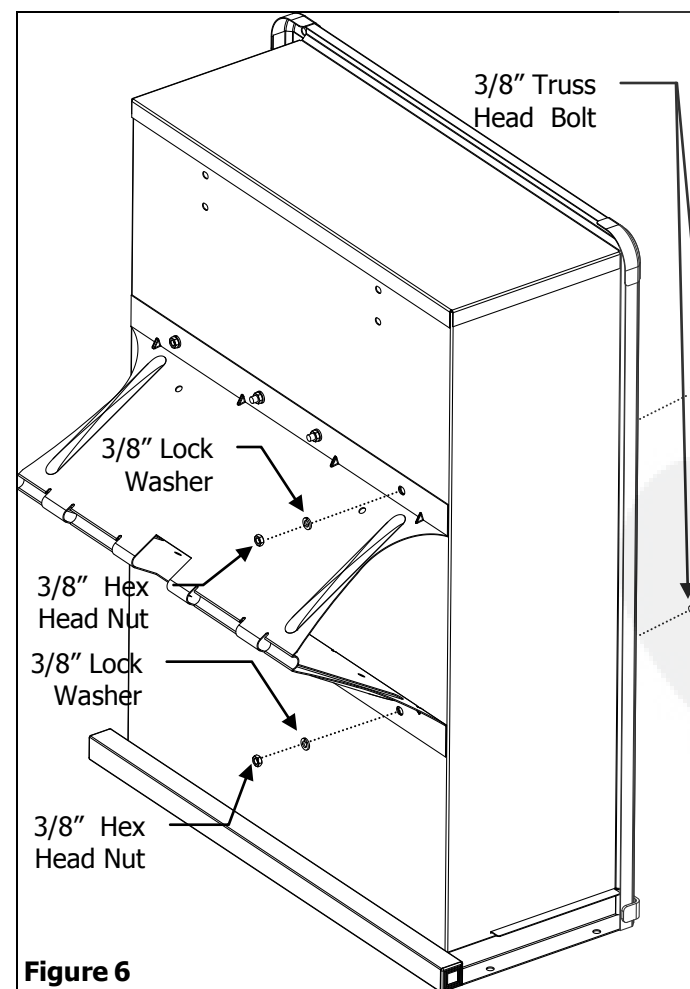

Figure 6
6. Attach Undercarriage Axle Support to the bottom of the Body. Use 3/8" x 3/4" Truss Head Bolts, 3/8" Lock Washers, and secure with 3/8" Hex Head Nuts. See Figure 6.